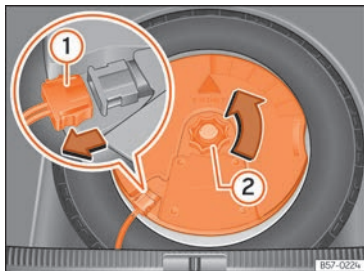

Fig. 329 In the luggage compartment: remove the subwoofer.
- Disconnect the subwoofer »» Fig. 329 ① speaker cable.
- Turn the securing wheel in an anti-clockwise direction »» Fig. 329 ②.